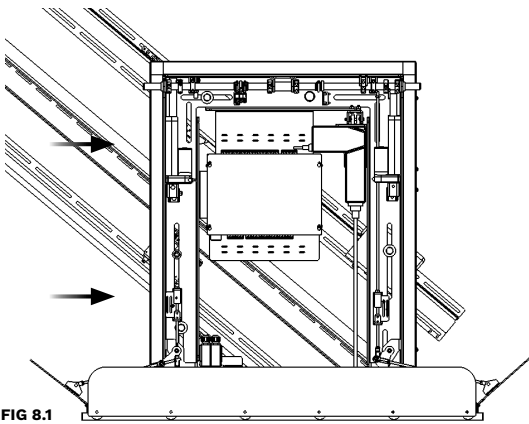

FIG 8.1
1. Position the Carriage at the bottom landing and slide it towards the rails ensuring all rollers slide into position. **See Fig 8.1**